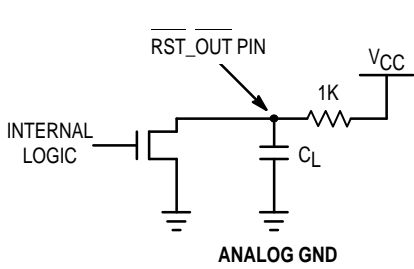

Figure 4. RST_OUT Test Circuit
- The $\overline{RST_OUT}$ pin is an open drain N-Channel output. Therefore an external pull-up resistor must be provide to pull up the $\overline{RST_OUT}$ pin when it goes into the high impedance state (after the MC88916 is phase-locked to the reference input with $\overline{RST_IN}$ held high or 1024 'Q' cycles after the $\overline{RST_IN}$ pin goes high when the part is locked). In the t_{pLZ} and t_{pZL} specifications, a 1K Ω resistor is used as a pull-up as shown in Figure 4.